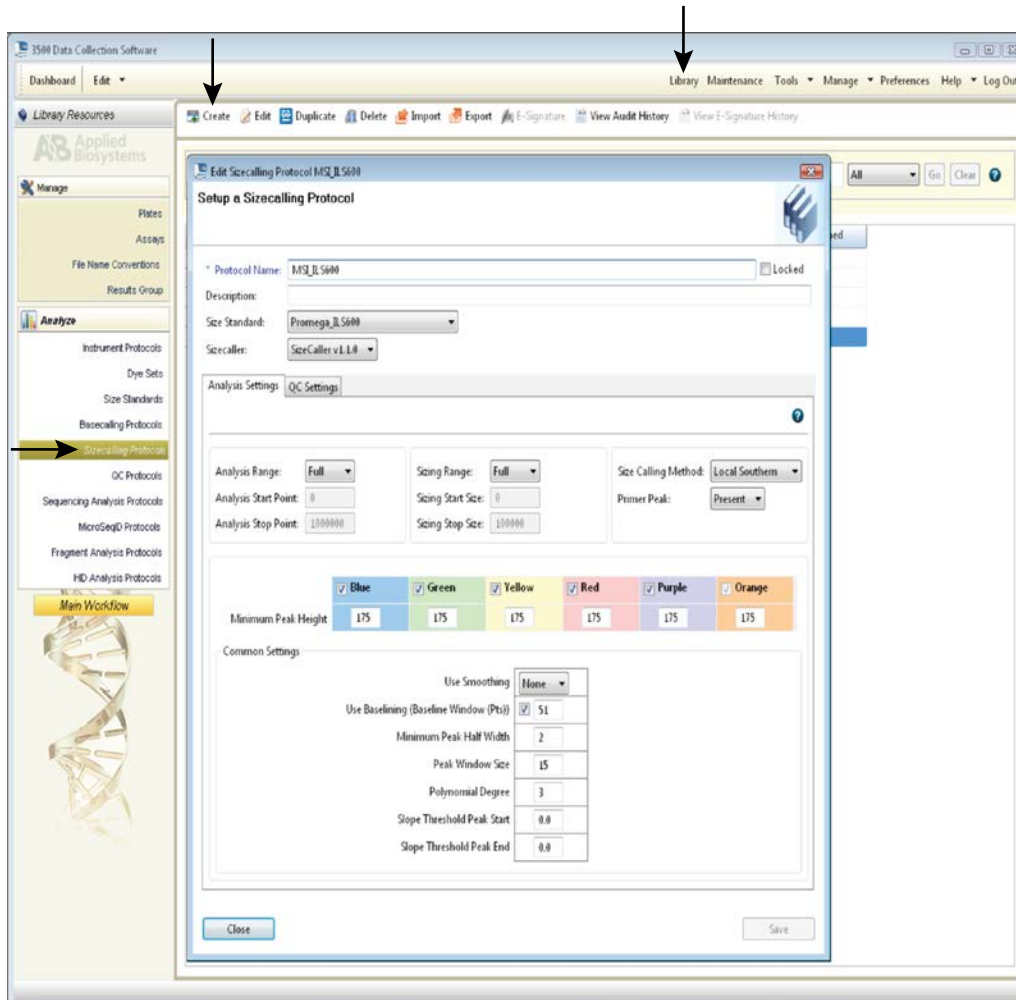

Figure 7. The Create New Sizecalling Protocol window.
- To create a new Sizecalling Protocol, navigate to the Library. Select “Sizecalling Protocols”, then select “Create”. Assign a descriptive protocol name (Figure 7). Select the size standard created in Step 3. Leave all other settings as default. Select “Save” then “Close”.